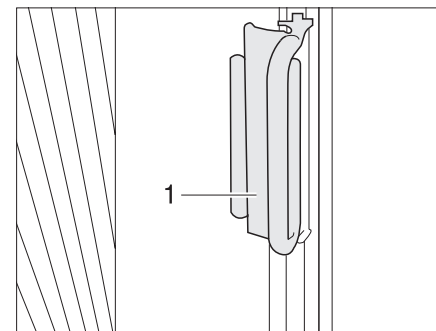

Fig. 8 Handle for folding blackout driver/passenger window
- On the Roman shades for the driver's and passenger's window, push the handle (Fig. 8,1) onto the cap.